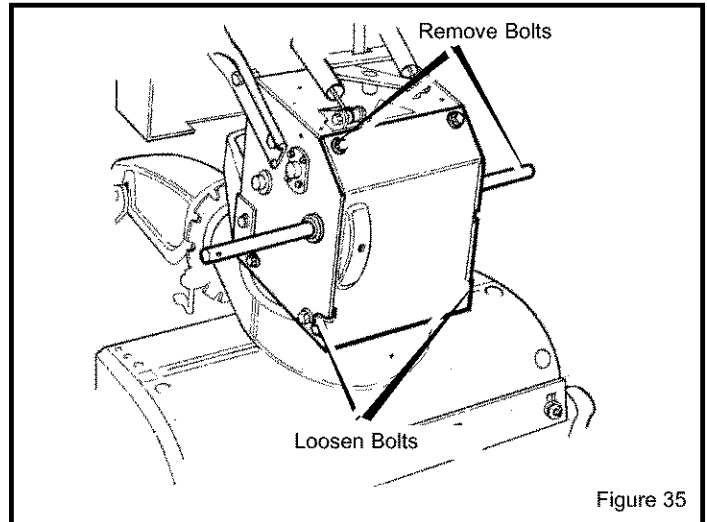

Figure 35
1. Remove bottom panels (Figure 35).